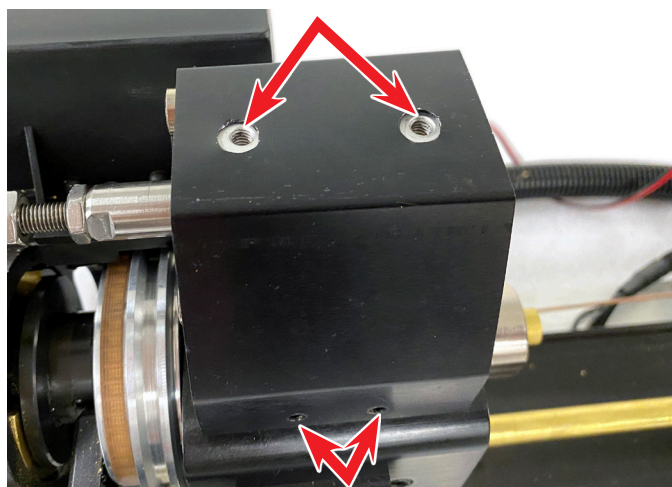

FIGURE 42
- A. Disconnect the incoming air lines from the (2) flow controls (P/N 88050).
- D. Place the cover over the headstock and air cylinder. Align the flow control holes on top and the side holes on the front (see Figure 42).